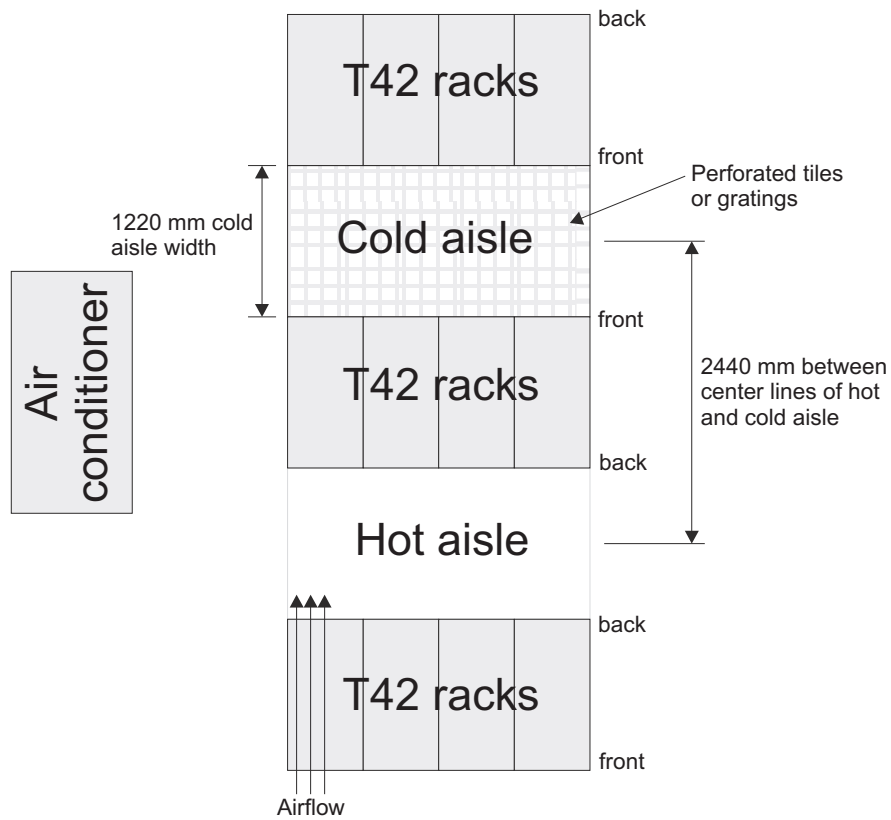

Figure 15. Example of cold aisle/hot aisle rack configuration
- Air enters at the front of the rack and leaves at the back. To prevent the air that is leaving the rack from entering the intake of another piece of equipment, you must position the racks in alternate rows, back-to-back, and front-to-front. This arrangement is known as *cold aisle and hot aisle* and is shown in Figure 15 on page 23.